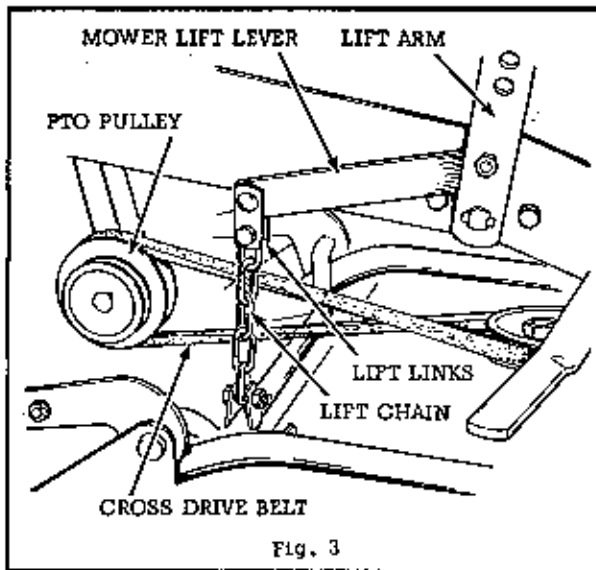

Fig. 3
3. Place the tractor lift lever in its rear position and attach the mower lift lever to the tractor lift arm on right hand side of tractor as shown in figure 3. Use hex capscrew, flatwashers, and hex nut furnished for this purpose.
4. Connect the mower lift chain to the lift lever by fastening the lift links in place with a pin and hair pin cotter as shown in figure 3.
5. Place the cross drive belt in position on the mower drive pulley. Give the belt a 90° twist towards the left hand side of the tractor and mount belt to larger pulley of power take-off as shown in figure 3. When installed in proper manner, the belt should run from the left side of mower pulley to bottom side of power take-off pulley.